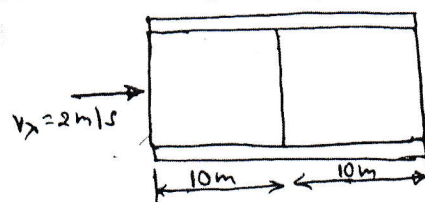

Fig Q8(b)
b. For the smooth pipe shown in Fig Q8(b) with uniform C/S of 1m^2 determine the flow velocities at the centre and right end, knowing velocity at left $V_x = 2\text{m/sec}$.